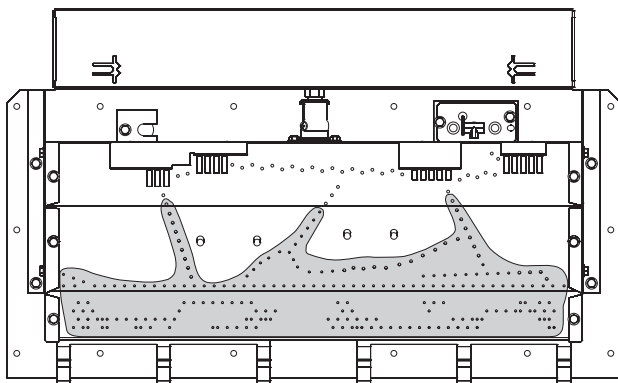

Figure 63
The positioning of logs is critical to safe and clean operation of this fireplace. Sooting and other problems may result if the logs are not properly and firmly positioned in the firebox. Please refer to **Figures 63 through 66** and corresponding WARNING, when completing the following log placement steps.
17. After all logs are properly positioned, place small "dime" size pieces of Rockwool lightly across the front round "blueflame" ports. Place the ember material (Rockwool pieces) side by side. Do not stack more than one layer of embers across the burner ports. **See Figure 63.**